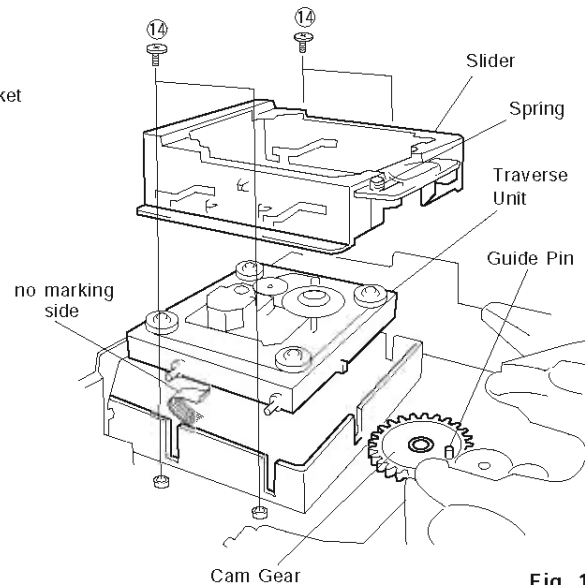

Fig. 11
- Remove 4 screws (14) and take out the Slider in Fig. 11.
- Remove the Traverse Unit in Fig. 11.
- Turn the Cam Gear until its Guide Pin comes to the position as shown in Fig. 11.